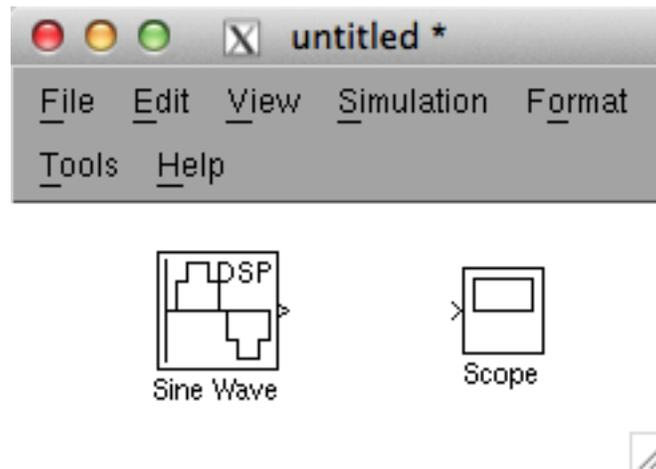

Figure 4. Model Window with Sine Wave and Scope Blocks
- Click once on the “Sinks” sub-library that is listed under Simulink in the Library Browser. Click and drag the “Scope” icon to the model window to the right of the Sine Wave block. The model window should now appear as shown in figure 4. Make sure you have used “Scope”, not “Floating Scope”.